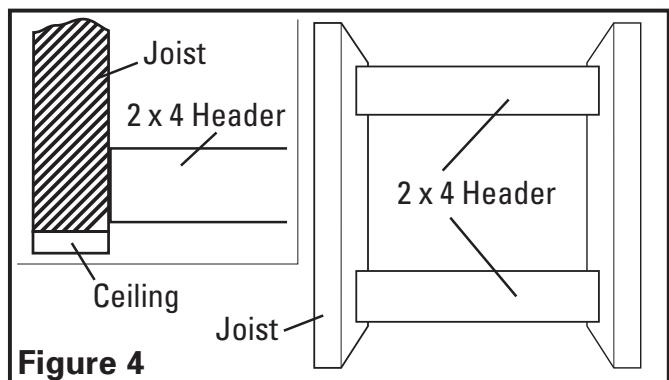
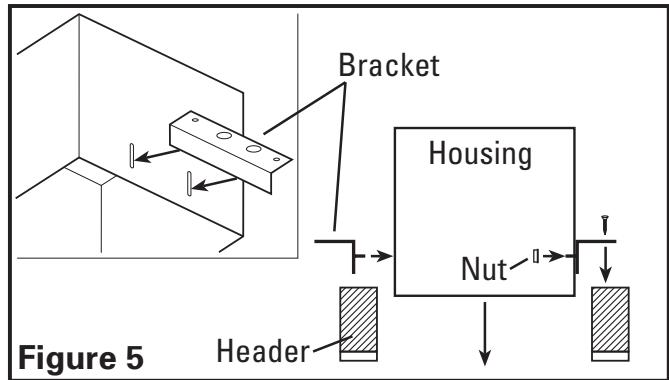

Figure 4
Figure 5
- 1c. **Installation on 2x6 Joists on 16" Centers:** Install two - 2x4 headers (not included) between the joists (**Figure 4**). Install the mounting brackets through the top set of slots on the fan housing and secure in place with the four included #10-32 nuts as shown. Position the fan housing between the headers and secure the mounting brackets with screws or nails (not included) to the header. Adjust the height of the housing so that it is flush with the finished ceiling by loosening the mounting bracket nuts and sliding the housing up or down on the bracket. Fully tighten all four nuts to secure the housing in place (**Figure 5**).